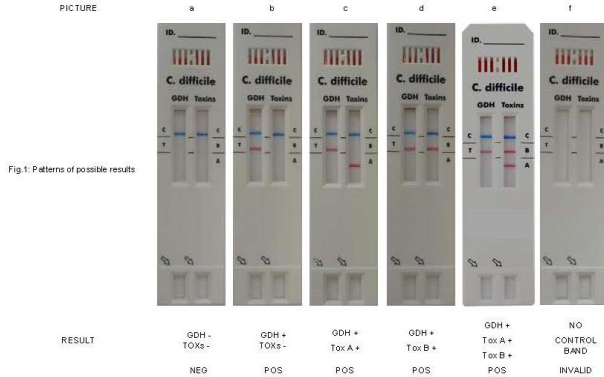

Fig. 1. Patterns of possible results
A diluted patient stool sample is dispensed into both sample ports of the cassette and migrates along the membranes through the Test and Control zones. After 15 minutes of incubation at room temperature, the appearance of a specific colored line in the reading window next to the corresponding letter indicates a positive result in the presence of the Control line (see Fig. 1).
6. Ensure to add the correct volume of the extracted sample to the two sample ports marked with an arrow in the plastic device. If the volume is lower than indicated, the flow may not occur due to insufficient sample reaching the reaction strips; if the volume is higher, brown lines may appear instead of the expected ones (see Fig. 1).
The cassette contains two strips: on the left side the strip for GDH, on the right side the strip for toxins A and B. The possible outcomes are shown in Fig. 1.
- Highly hemorrhagic samples may interfere with the assay by determining a false negative result or the appearance of aspecific bands. This event is often accompanied by the alteration of the color of the bands. Do not report any result if the bands are not of the correct color (Control Lines must be **BLUE**, Test Lines must be **PINK-RED**) – Refer to Fig. 1.